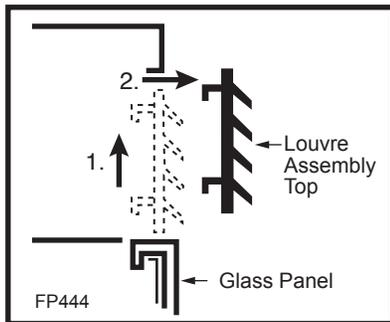
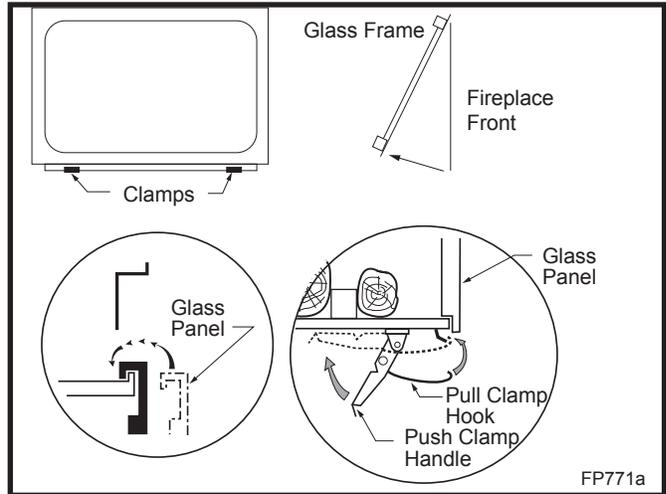

Fig. 9 Remove louvre assembly top.
Fig. 10 Glass panel removal.
To remove the louvre assembly top, pull louvre up, then lift out. (Fig. 9) The bottom louvre assembly is hinged at the bottom edge and swings down.
3. Remove louvre assembly top. (Refer to Louvre Removal, Fig. 9)
5. Release the two (2) clamps at the bottom of the window frame by pulling down on the clamp handles.
6. Lift off the window frame assembly as shown. (Fig. 10)